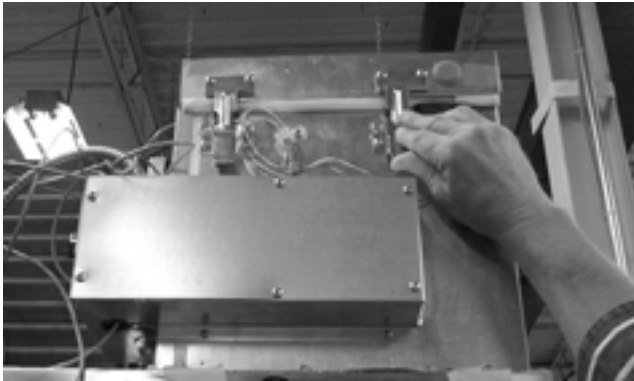

Figure 4-28
2. Remove the evaporator box cover lid (Figure 4-28).